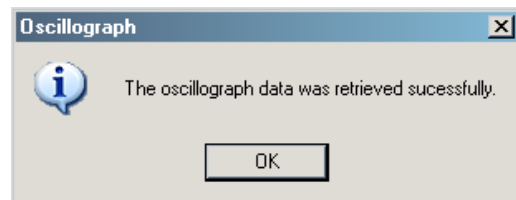

Figure 2-16 Oscilloscope Download Successful Confirmation Screen
5. Upon completion of the oscilloscope file download, IPScom will display the Download Successful confirmation screen (Figure 2-16).